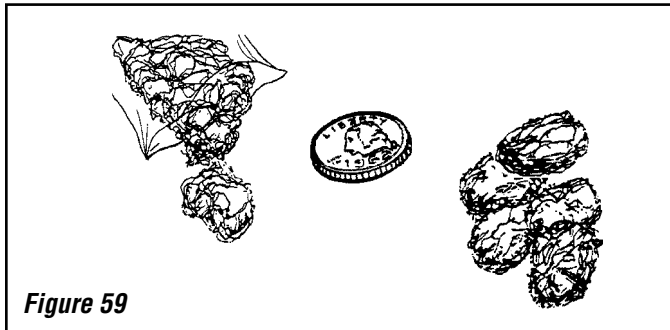

Figure 59
5. **Placement of Glowing Embers** - Separate the Embers (rockwool) into pieces about the size of a quarter (see *Figure 59*). Keep the pieces fluffed up, not matted. Distribute these pieces over the surface of the burner, as shown in *Figure 60*. Do not use more than is necessary. Ensure that the main burner ports remain uncovered by the ember material.